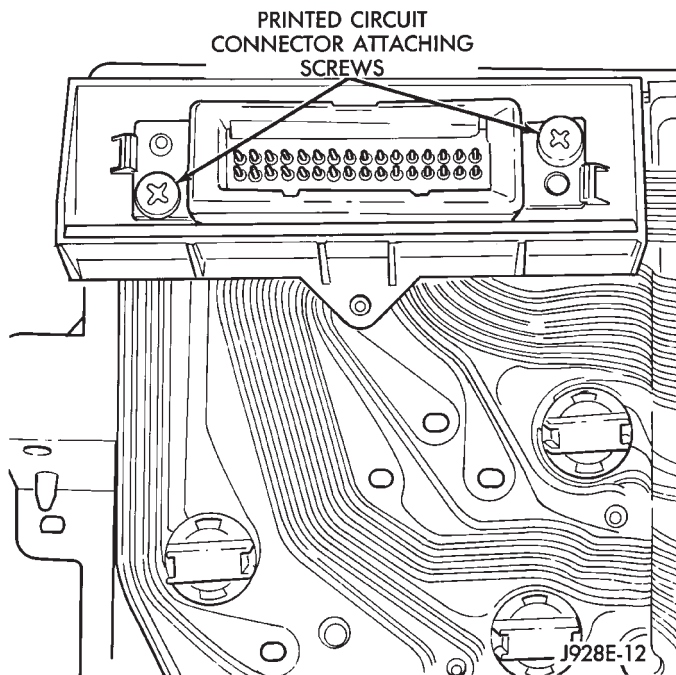

Fig. 7 Cluster Connector Retaining Screws
(6) Remove 2 screws holding the cluster connector to the bezel (Fig. 7).